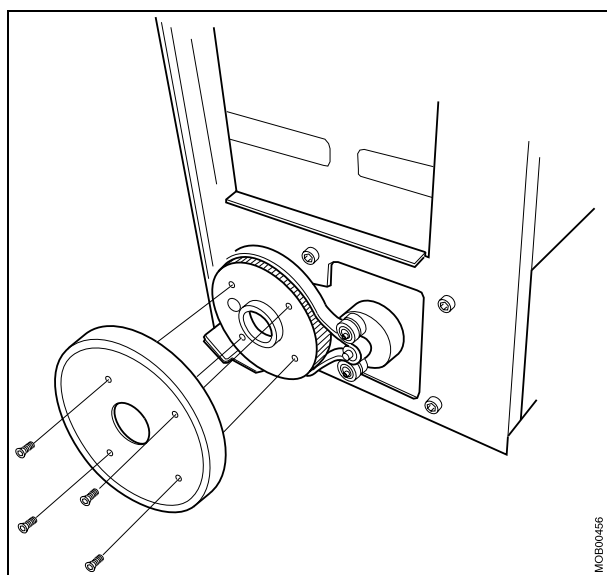

Fig. 75: Wheel disassembly
- Remove the wheel as illustrated in (Fig. 75 / p. 81).